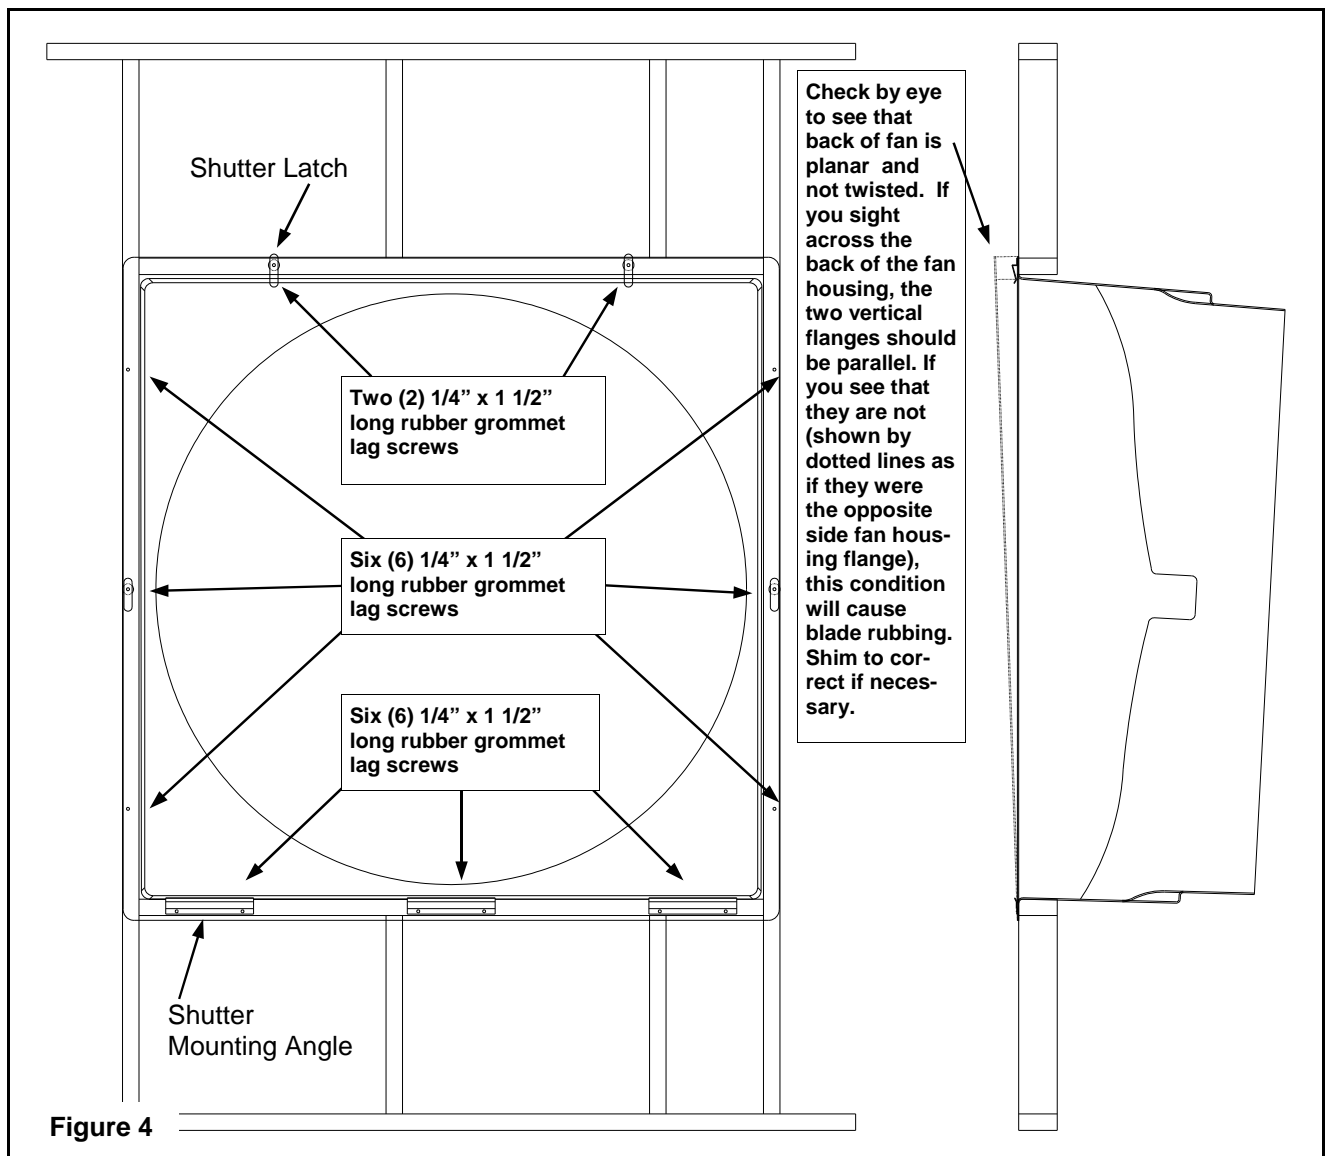

Figure 4
Insert the fan housing assembly through the framed opening of the wall from the inside, and secure it to the wall using four (4) of the 1/4" x 1 1/2" long rubber grommet lag screws through the pre-drilled holes in the side flanges of the fan housing. Check installation by eye and see if back of fan housing is planar and not twisted in the wall opening. The fan housing **MUST NOT** be installed out of square. Doing so will result in an out of round condition and blade rubbing will occur. If necessary, shim the housing so it is square. See Figure 4. Next, there are three (3) shutter mounting clips that are attached to the fan using six (6) of the 1/4" x 1 1/2" long rubber grommet lag screws through the pre-drilled holes in the bottom flange of the fan housing and into the framed opening. Finally, there are four (4) shutter latches and four (4) 7/8" O.D. rubber washers that are attached to the fan using four (4) of the 1/4" x 1 1/2" long rubber grommet lag screws. The rubber washer goes between the housing and the shutter latch. Place the shutter in the shutter mounting clips and match, mark and drill the four (4) 1/4" holes through the fan housing so shutter latch can rotate 90 degrees out of the way to remove the shutter. If necessary, shim the housing so it is square. Install flashing around fan and caulk to properly seal fan to wall.